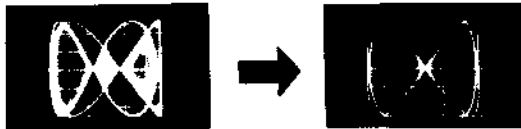

Fig. 3-6. Lissajous pattern
3. Turn the pilot-signal (19 kHz) phase control to obtain an in-phase and stable lissajous pattern as shown in Fig. 3-6.